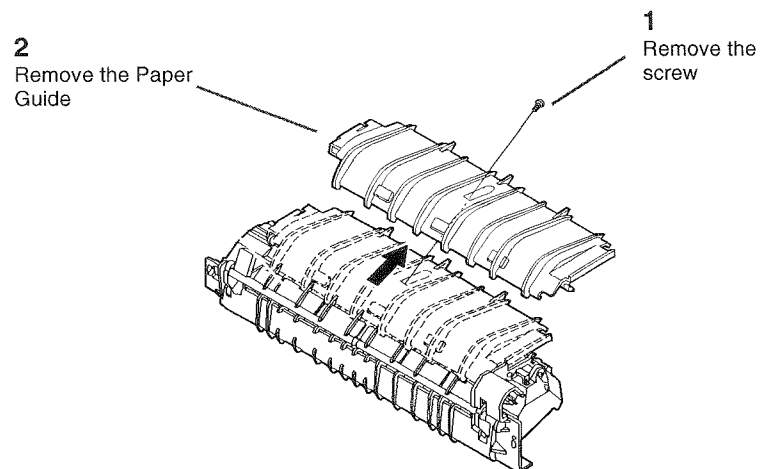

Figure 1 Removing the Paper Guide
4. ( Figure 1): Remove the Paper Guide.